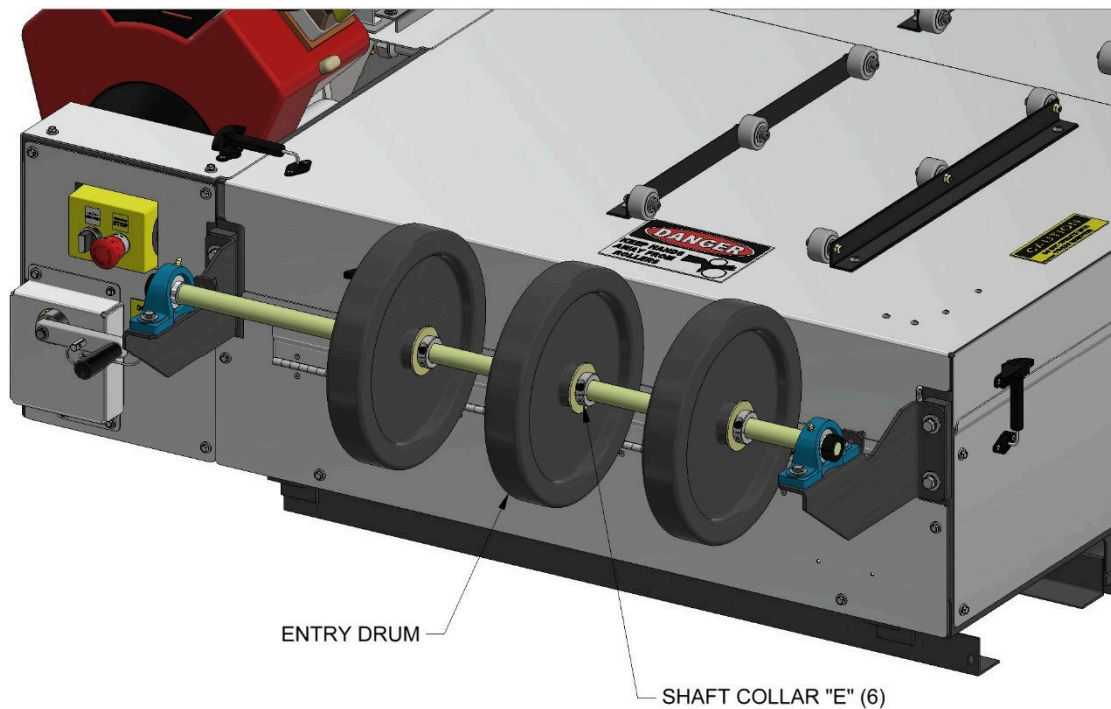

Figure 54: Entry Drum
1. Using a 3/16" Allen wrench, loosen the Shaft Collars "E", on either side of the drum. (Figure 54)